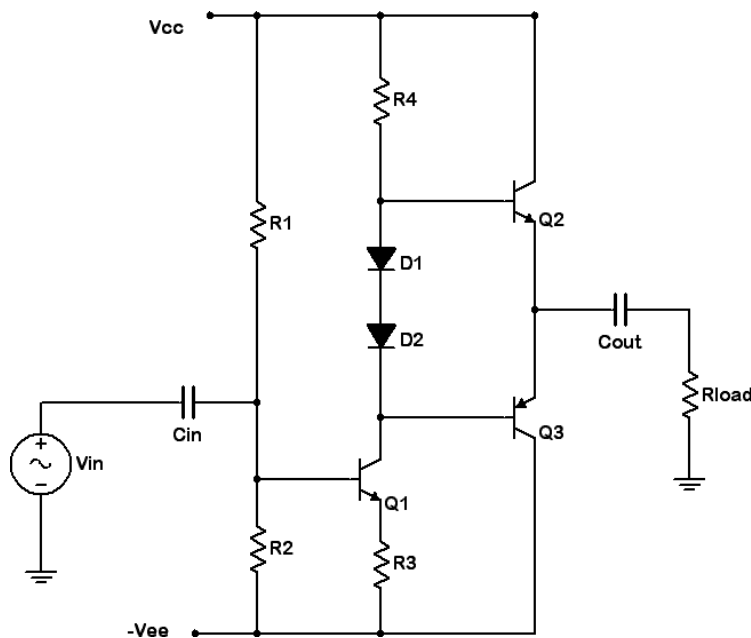

Figure 1
1. Consider the circuit of Figure 1 using $V_{cc} = 6$ volts, $V_{ee} = -6$ volts, $R_1 = 6.8$ k Ω , $R_4 = 1$ k Ω , $R_3 = 100$ Ω , $R_{load} = 100$ Ω , $C_{in} = 1$ μ F and $C_{out} = 100$ μ F. R_2 is an adjustable resistance (pot or decade box). For proper bias, the emitters of the output transistors should be at 0 volts DC. For this to be true there must be a voltage of $V_{cc} - V_{be}$, or approximately 5.3 volts, across R_4 .
4. Build the circuit of Figure 1 using $V_{cc} = 6$ volts, $V_{ee} = -6$ volts, $R_1 = 6.8\text{ k}\Omega$, $R_4 = 1\text{ k}\Omega$, $R_3 = 100\Omega$, $R_{load} = 100\Omega$, $C_{in} = 1\text{ }\mu\text{F}$ and $C_{out} = 100\text{ }\mu\text{F}$. Set the pot or decade box (R2) to the value calculated in Table 1. Disconnect the signal source and inspect the DC voltage at the load. Adjust R2 until this voltage goes to 0 volts. Record the resulting value of R2 in Table 1.